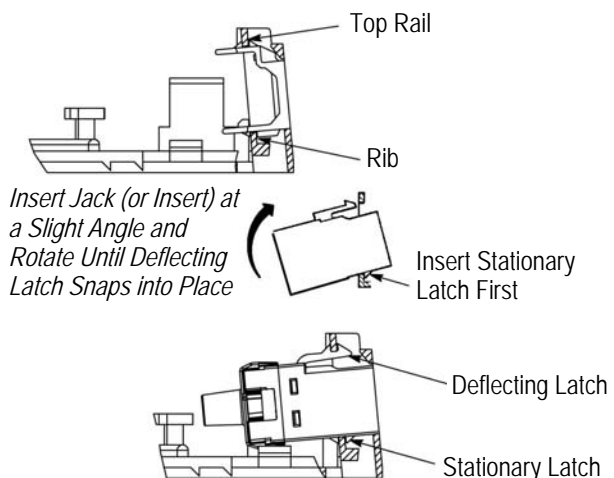

Figure 3
A. Modular Jack and Multimedia Inserts (See Figure 3)
C. Insert Installation (See Figure 3)